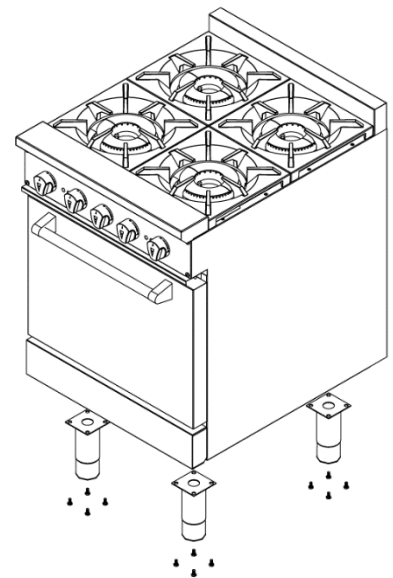

Fig. 1
1. Install the 4 leveling leg/caster through the bottom of the range, using a Phillips screwdriver, assemble each leg/caster with 4 screws A (Fig. 1).